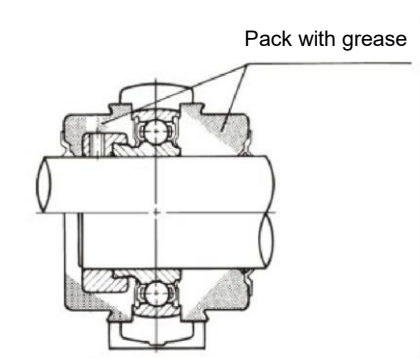

Fig. 5.1
- \* Apply an amount of grease corresponding to 1/3 to 1/2 of the volume of the space inside the cover to that space. (Fig. 5.1)